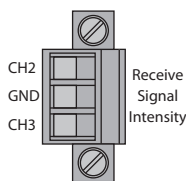

Fig. 4: Analog voltage outputs – connections for 3-pin terminal block
- ▶ These voltage outputs are connected to the front side of the repeater with a 3-pin screw terminal (see Fig.4).